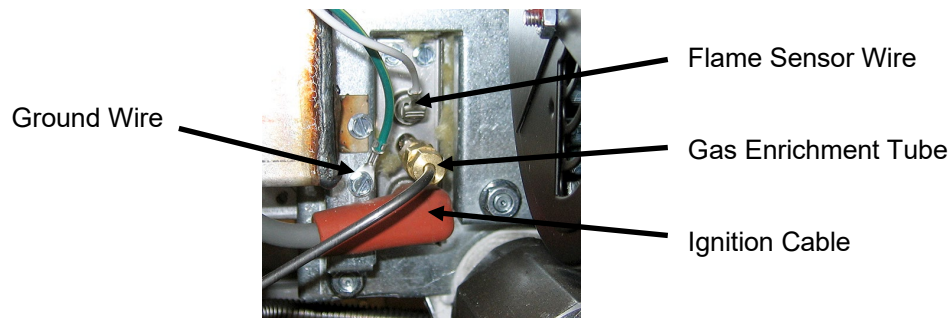

Figure 7
4. Remove the blower (see Figure 7 in section 1.14.7).
2. Disconnect the flame sensor wire by carefully pulling its push-on terminal from the terminal tab on the ignitor (see Figure 7). Disconnect the gas enrichment tube at the ignitor-end compression fitting. Disconnect the ignition cable from the ignitor by grasping its boot and gently pulling toward you.